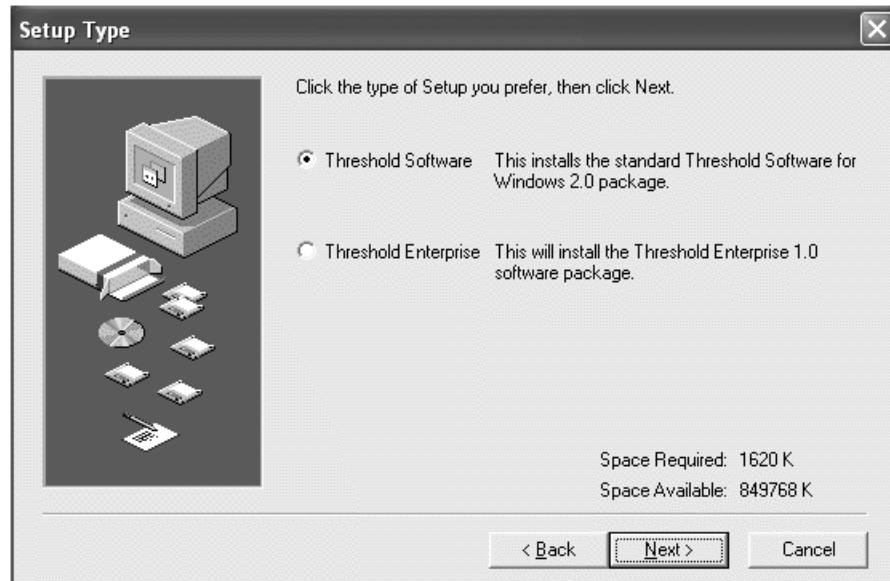

Figure E-4: Setup Type Screen
11) In the **Setup Type** screen, choose the software program you wish to install (Figure E-4)